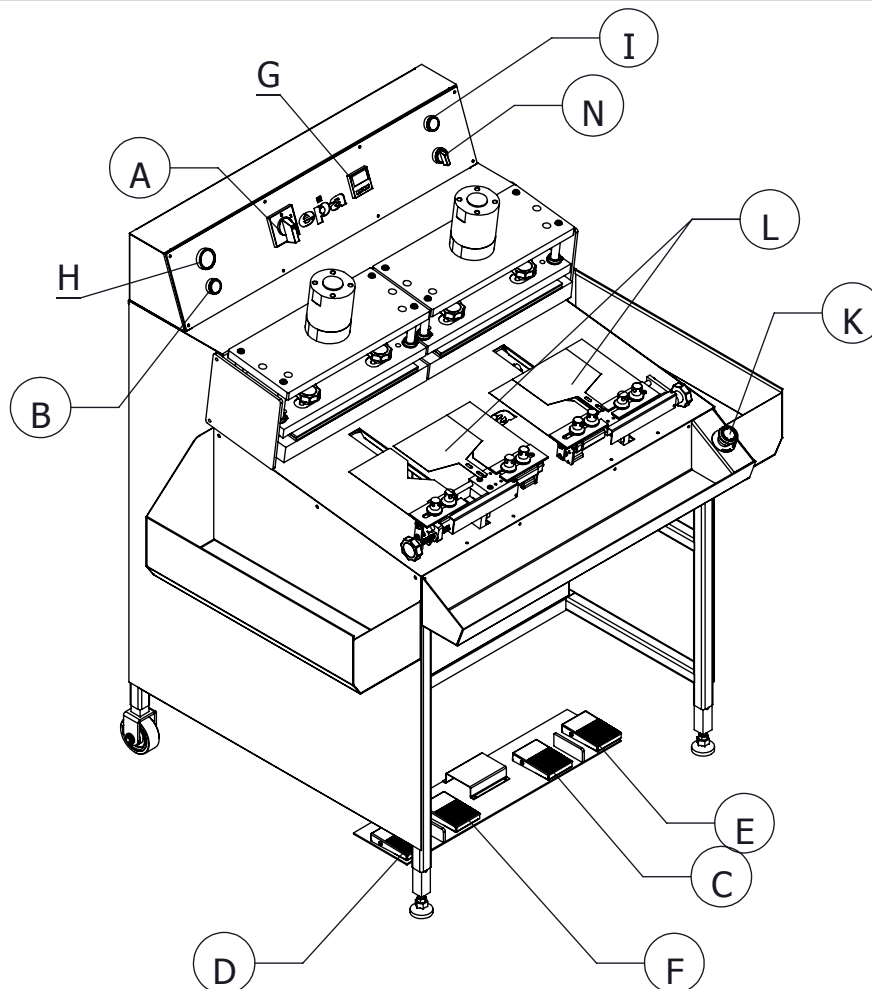

Figure.4
1. Replace the moulds that you will use in the machine properly.(Figure.4-L)
2. Open air valve and ensure the pressure indicator (Figure.4-M) shows 6-7 Atm. If it needs, adjust air pressure by using regulator.
4. Bring main power switch to I position. (Figure.4-A)
5. Enter heat is required to thermostat (Figure.4-G).
7. Observe urgent stop button (Figure.4-K) is open.
8. If you will work at 1th press; provide to be 1th and 2nd press on/off button (Figure.4-N) is at I position.